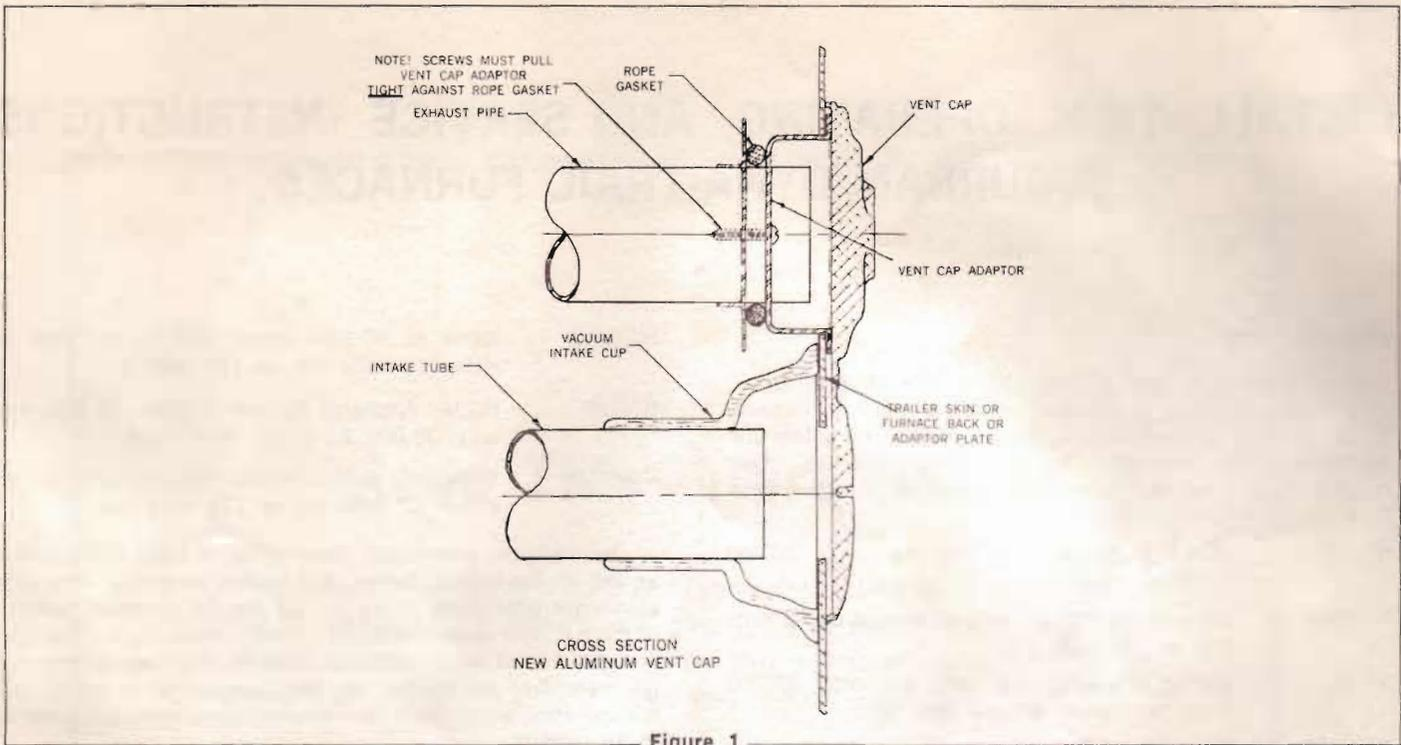

Figure 1
- g. Secure one-piece vent cap to the outside of the backplate according to Figure 1. Please insure that the vent cap adaptor is installed on the exterior of the furnace backplate!
- k. Secure one-piece vent cap to the outside of the backplate according to Figure 1. Please insure that the vent cap adaptor is installed on the exterior of the furnace backplate!
- d. Refer to Figure 1-A or 1-B (depending on the model being installed) and pierce holes as shown in outer skin.
- f. Secure one-piece vent cap to the outside of the outer skin with the four (4) screws provided. (See Figure 1 for correct installation of vent cap and vent cap adaptor.)
- e. Secure one piece vent cap to vehicle's exterior skin in accordance with Figure 1. Caution! Be sure the vent cap adaptor is installed on the exterior of the special adaptor back!